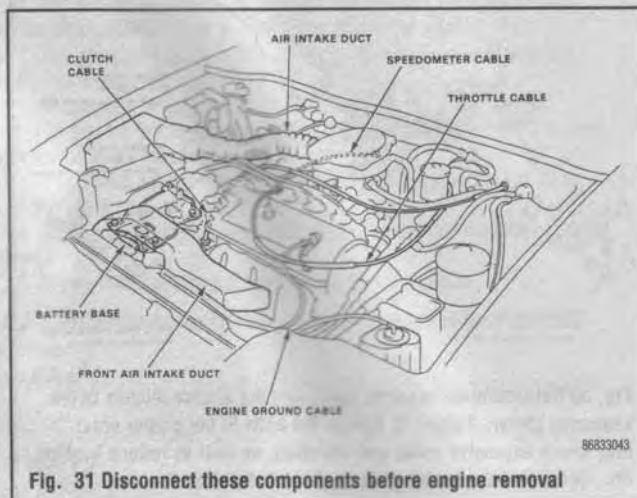

Fig. 31 Disconnect these components before engine removal
▶ See Figures 31, 32, 33, 34 and 35